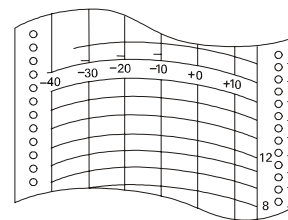

Fig. 1
1. The information on the recording paper is shown in Fig. 1.
1. Slightly raise the end of the ink pen lifter and remove from the lifter stopper. Then rotate clockwise as shown in Fig. 1.